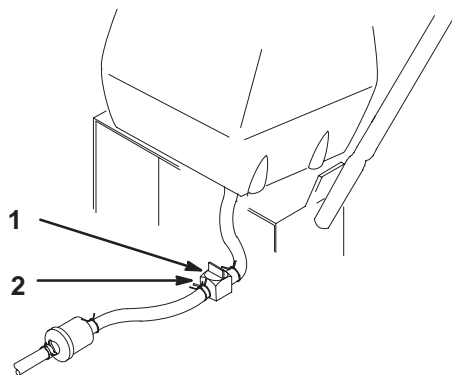

Figure 35
2. Close fuel shut-off valve at fuel tank (Fig. 35).
3. Squeeze the ends of the hose clamp together and slide it up the fuel line away from valve (Fig. 35).
4. Pull the fuel line off the valve (Fig. 35). Open fuel shut-off valve and allow gasoline to drain into a gas can or drain pan.
3. Close fuel shut-off valve at the fuel tank (Fig. 35).
7. Open fuel shut-off valve at the fuel tank (Fig. 35).